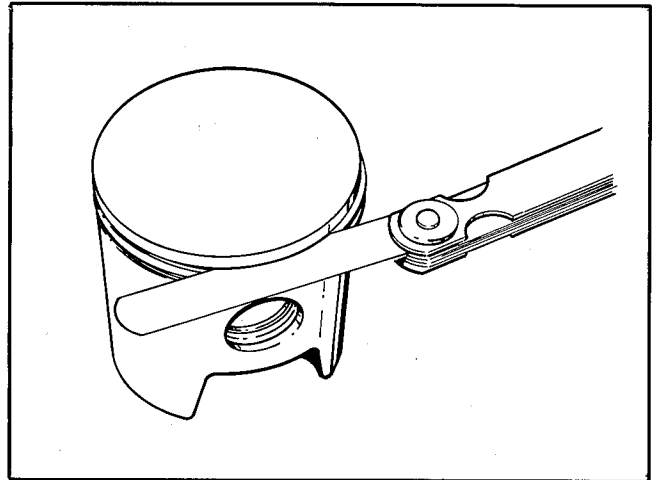

Figure 54 - Ring Side Clearance
- a. See Figure 54. Check the side clearance of the rings in the piston grooves using a feeler gauge. Side clearance should be .002-.004 in.